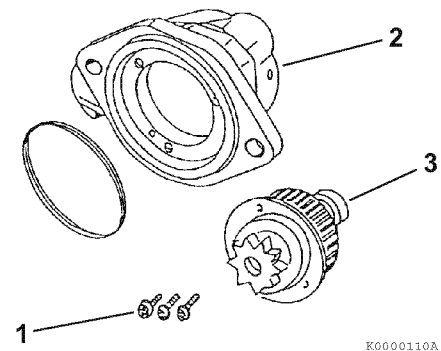

Figure 11-9
9. Remove the three M4 bolts (1, **Figure 11-9**) securing the bearing retainer assembly (2, **Figure 11-9**) to the gear housing. Remove the bearing retainer assembly from the gear housing.
10. Remove the pinion clutch assembly (3, **Figure 11-9**) from the bearing retainer assembly.